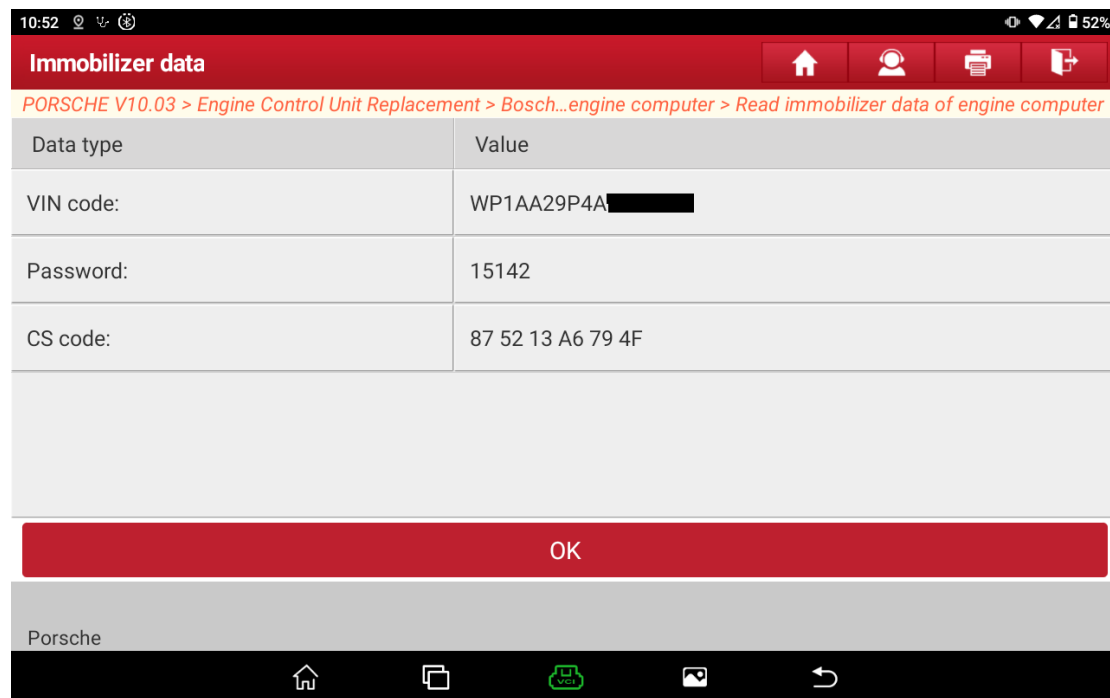

Figure 6 Immobilizer data of external engine computer
6. It takes about 10 seconds to read the immobilizer data successfully, as shown in Figure 6.